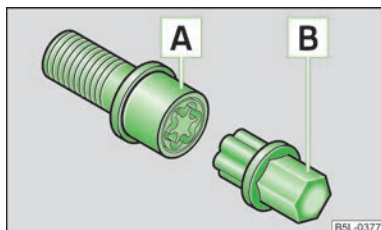

Fig. 133
- Insert the adapter  » Fig. 133 with its toothed side fully into the inner toothing of the safety wheel bolt  until the stop so that only the outer hexagon is jutting out.